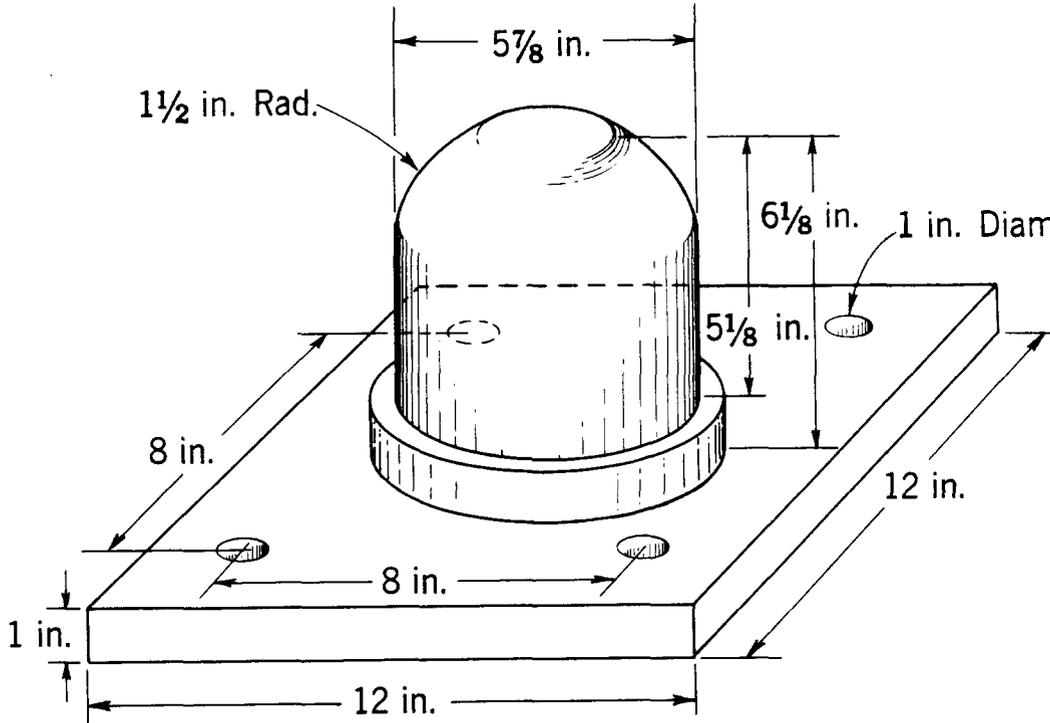

Fig. 3 – Base Shoe
2.02 All sizes of the B Tower employ the same size base shoe, and require the same spacing of anchor bolts on each pier. Details of the base shoe are shown in Fig. 3. The base of the tower is equipped with a socket which fits over the large rounded steel pin in the middle of the base shoe. Four 3/4 by 18 inch bolts are used to secure the base shoe to the foundation. (The bolts are component parts of the B Guyed Tower Anchor.)